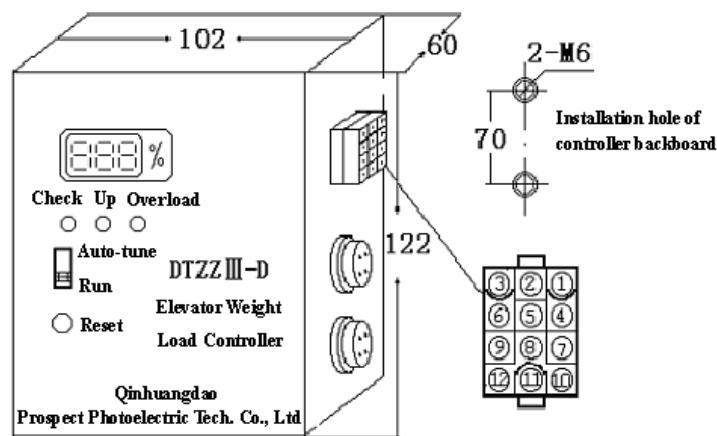

Fig.5
1.The interface of controller which provided to elevator system is as Fig.5, the definition of terminals is followed: